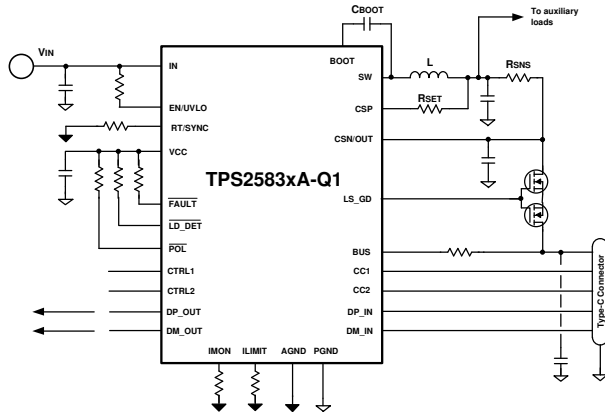

图 10-16. TPS2583xA-Q1 Current Limit with External MOSFET
- With external MOSFET 图 10-16:
3. Typical RILIMIT resistors value are listed in 图 10-16, given the condition RSNS= 15 mΩ and RSET = 300 Ω.
The TPS2583xA-Q1 has integrated NFET gate drivers and can support current limit with external NFET. Refer to 图 10-16.